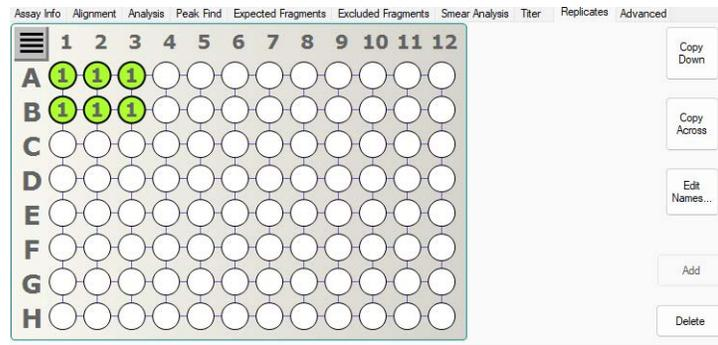

Figure 32. Replicate Set Added
- 2 Click the **Add** button to create a replicate set. Each of the selected wells is marked with the same number to indicate that the wells contain the same sample as shown in Figure 32.